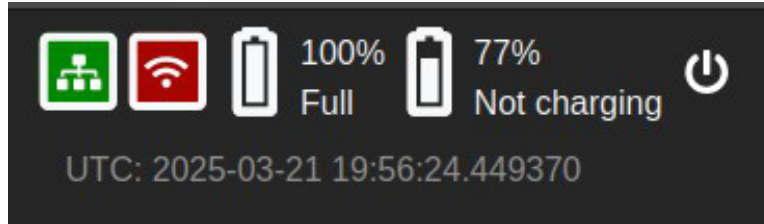

Figure 4. ViPERS navigation bar icons for local-area network (LAN), wide-area network (WAN), and battery.
DEVCOM ViPERS logo. Immediately to the right of that is the system name or “host name” (Figure 4). By default, this is set based on the serial number (SN) of the device. For example, if the SN of an MPM is 3007, the host name on display at the top left will be MPM-3007.